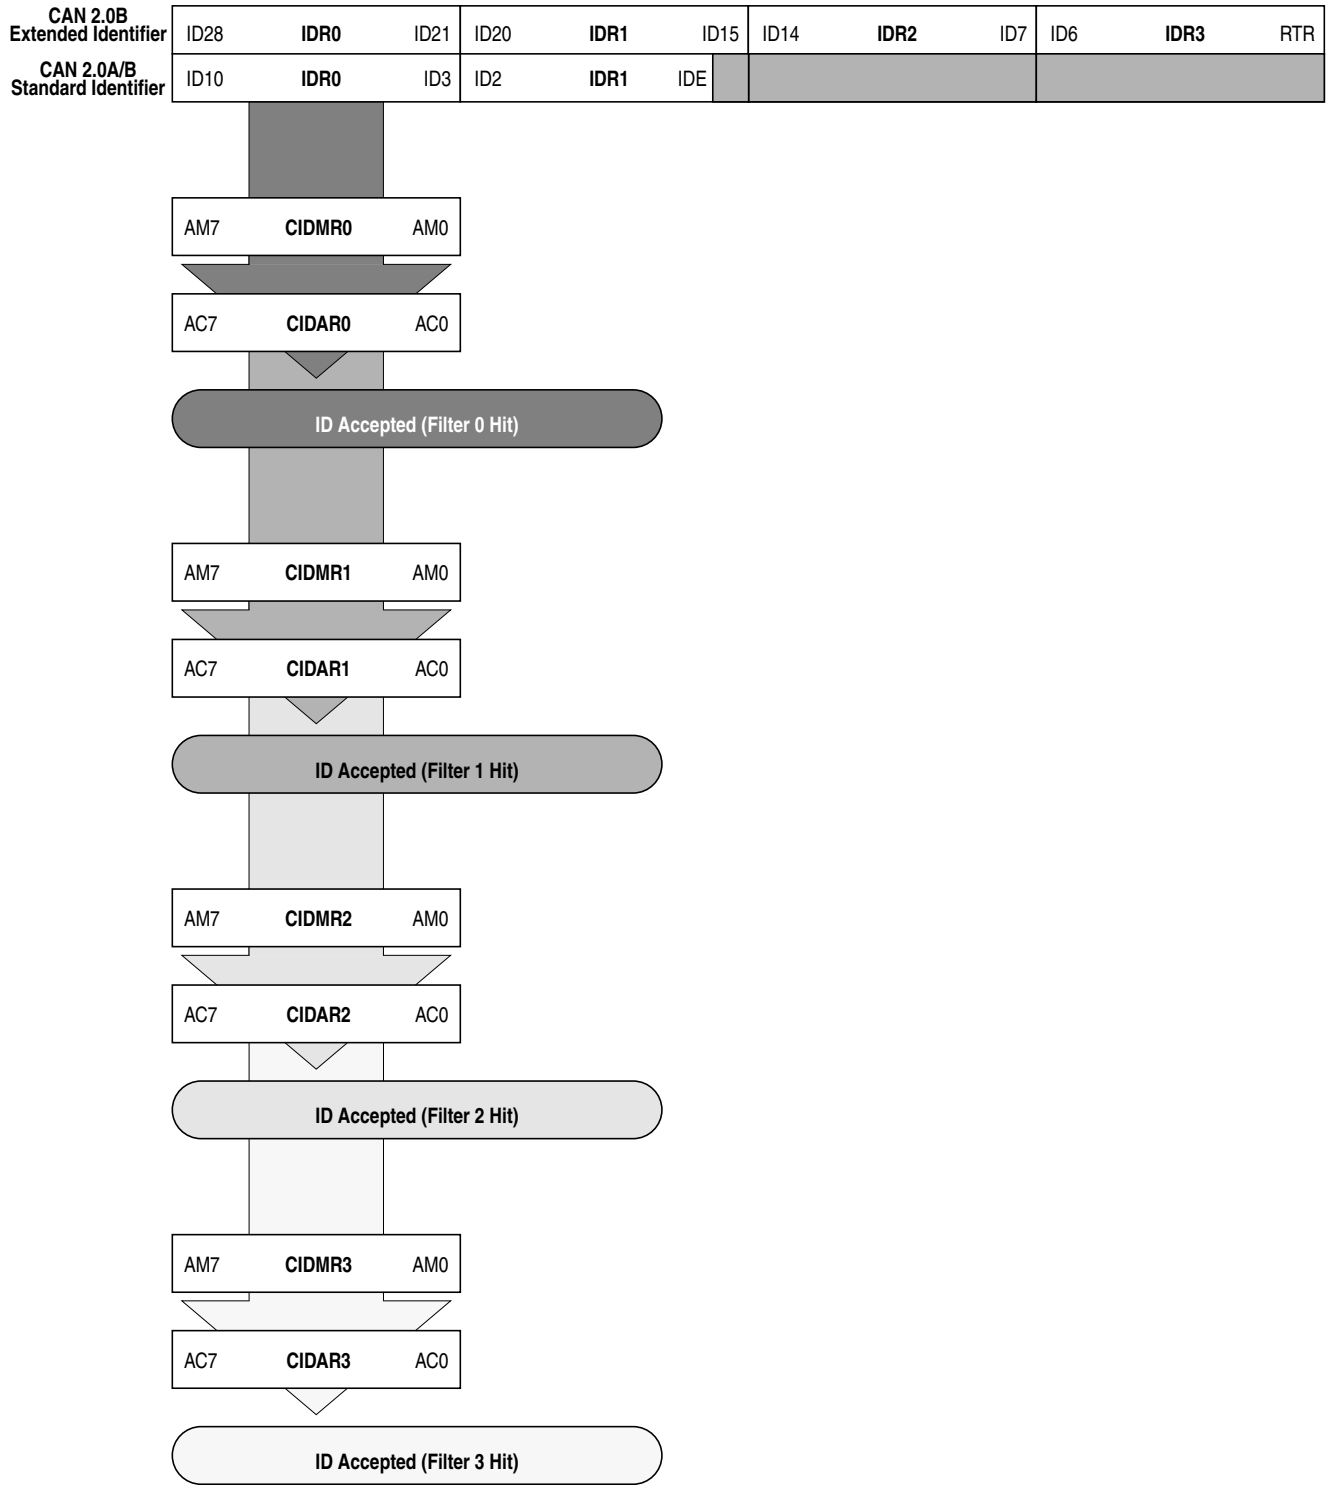

Figure 10-40. 8-bit Maskable Identifier Acceptance Filters
- Eight identifier acceptance filters, each to be applied to the first 8 bits of the identifier. This mode implements eight independent filters for the first 8 bits of a CAN 2.0A/B compliant standard identifier or a CAN 2.0B compliant extended identifier. Figure 10-40 shows how the first 32-bit filter bank (CANIDAR0–CANIDAR3, CANIDMR0–CANIDMR3) produces filter 0 to 3 hits. Similarly, the second filter bank (CANIDAR4–CANIDAR7, CANIDMR4–CANIDMR7) produces filter 4 to 7 hits.